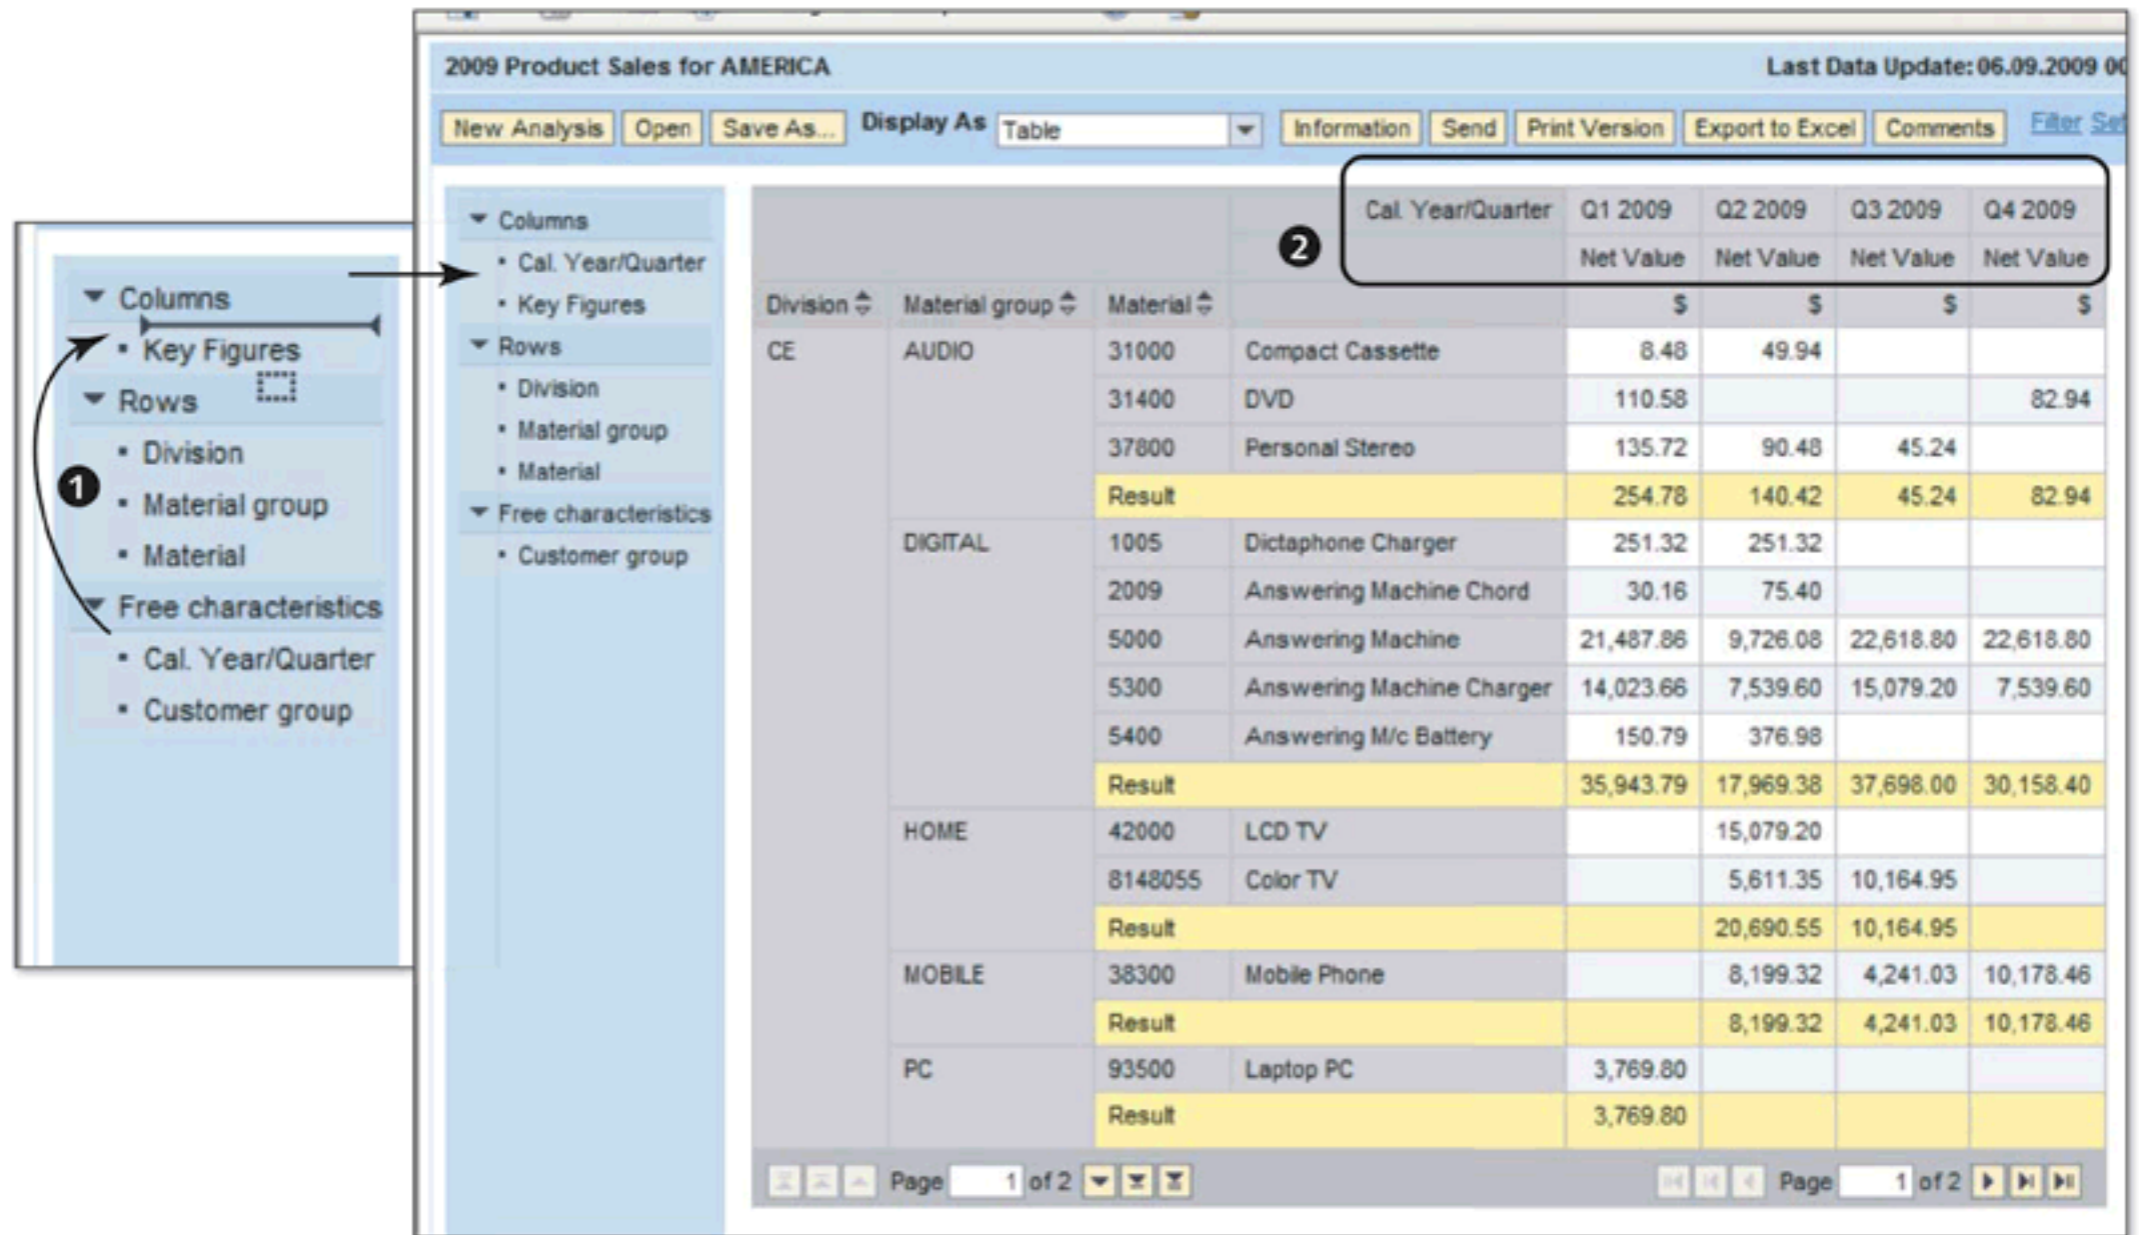

Figure 9.18 Drill-Across by Calendar Quarter
For example, if an analyst wants to see the net sales data by calendar quarter, he can simply drag CALENDAR QUARTER from FREE CHARACTERISTICS and drop it in COLUMNS, as shown in ❶ of Figure 9.18.
As a result, the query output is now modified to show the net sales by CALENDAR QUARTER (❷ of Figure 9.18). This action of adding a characteristic to the columns of the query is called *horizontal drilldown*. If you add a characteristic to the rows of the query, this action is called *vertical drilldown*.